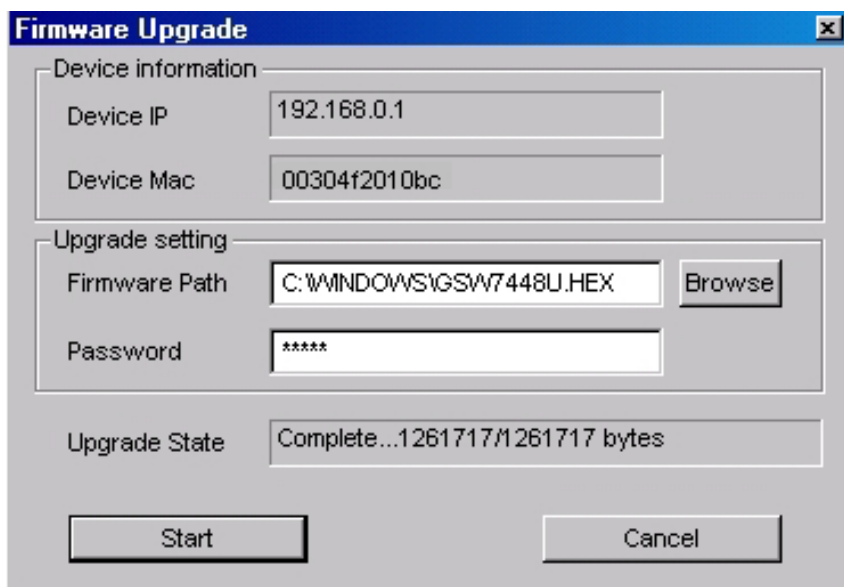

Figure 3-22 Firmware Upgrade completed screen
Step 3: After firmware upgrade completed, the Switch will reboot automatically. Then the following screen in **Figure 3-22 & 3-23** appears.